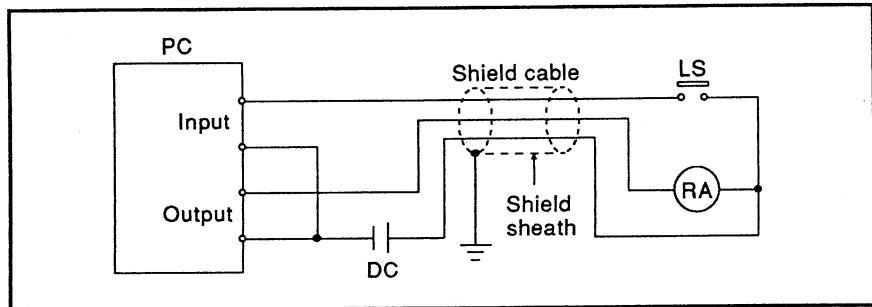

Fig. 5.8 Shielded cable grounding
- If separation cannot be done, perform grounding on the PC side by using a batch shielded cable (See Fig. 5.8).